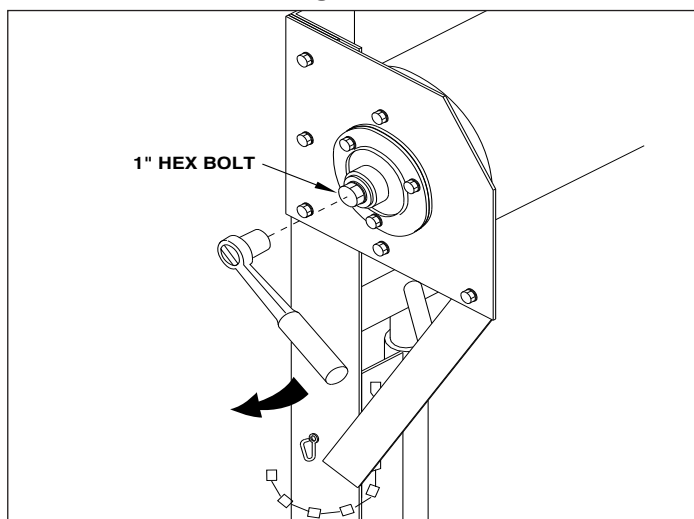

Figure 6.5
5. In the event of spring failure, locate the 1" [25] hex head bolt on the left side of the roller tube assembly. Using a socket drive or breaker bar, rotate the roller tube until the door has been fully opened. In the event of operator failure, pull and release the operator chain, the door will rise approximately 3' [914], Figure 6.5.